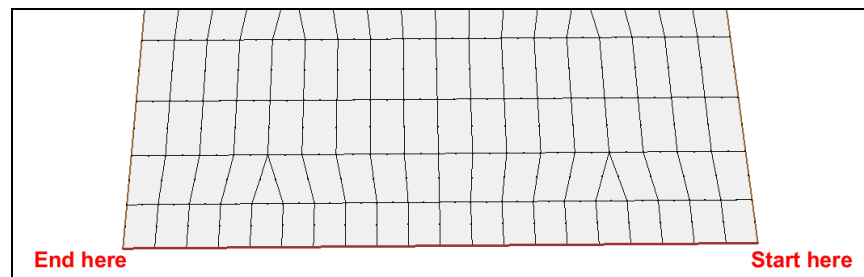

Figure 4 Start and end of the inflow nodestring
5. Repeat step 3, starting with the right node (since it would be on the right if facing downstream) and ending at the left node of the inflow boundary (Figure 4).